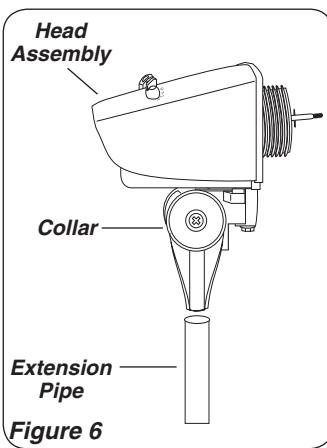

Figure 6
1. Place *Head Assembly* with *Collar* onto *Extension Pipe*. (*Figure 6*)